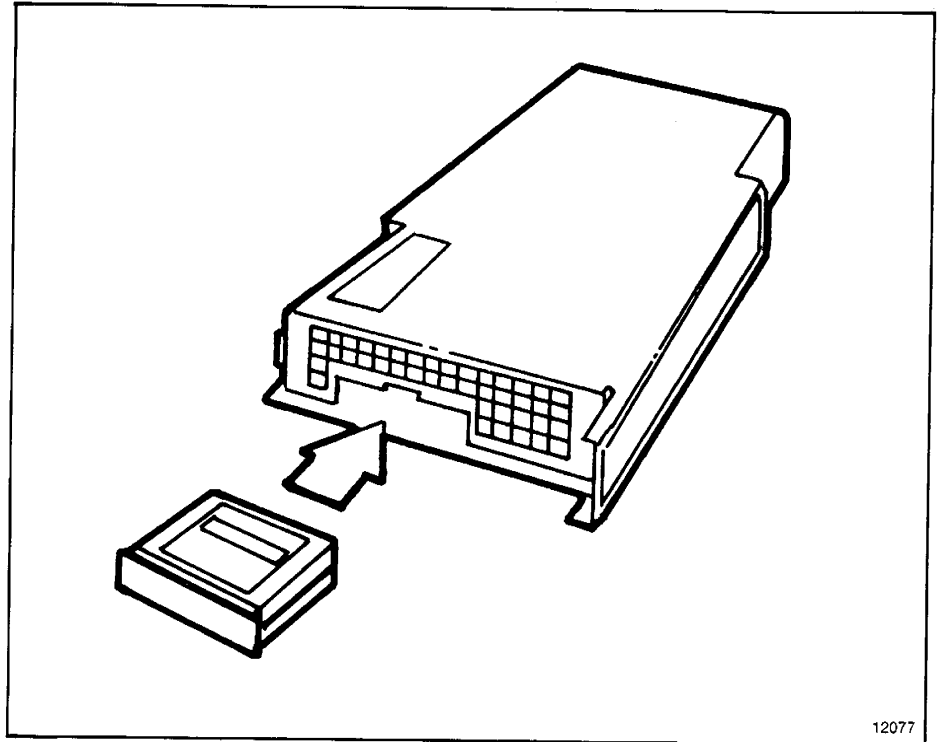

Figure 4.1 — Inserting the EEPROM Memory Module into the Processor
Step 8 — Position the EEPROM memory module in the memory module slot with its label facing upward. Insert and press firmly for proper connection (figure 4.1).